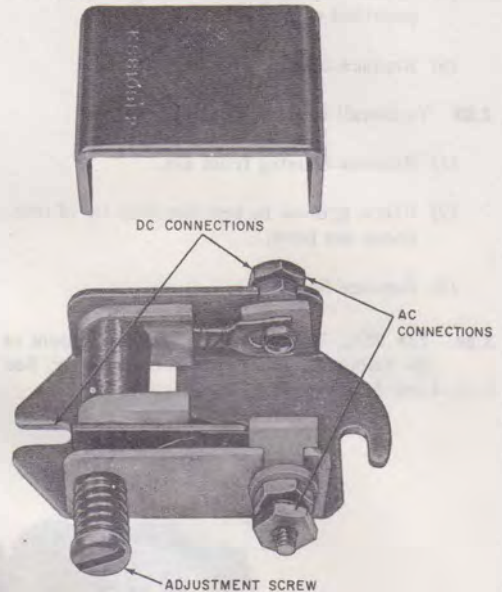

Fig. 2—KS-8109L2 Buzzer
- Add new KS-8109L2 buzzer, Fig. 2
**2.15** The volume on KS-8108, 9, and 10 type buzzers can be set with the adjusting screw (Fig. 2)
- 2.22** When using KS-8108, 9, and 10 type buzzer for dc operation the case becomes part of the circuit and should be insulated from any metal mounting surfaces (Fig. 2).